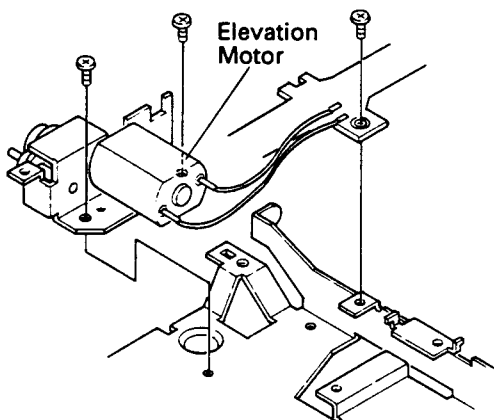

Fig. 14
1. Remove three screws and detach the elevation motor. (Fig. 14)